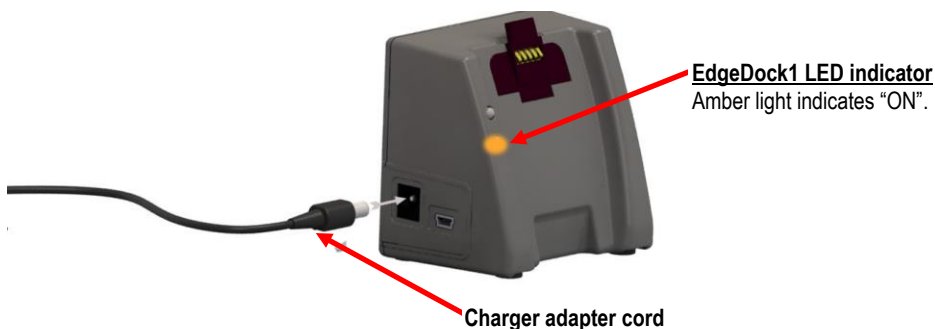

Figure 2-6: Attaching charger adapter to EdgeDock1 and EdgeDock5
1. Plug in the power adapter to the EdgeDock (see Figure 2-6).